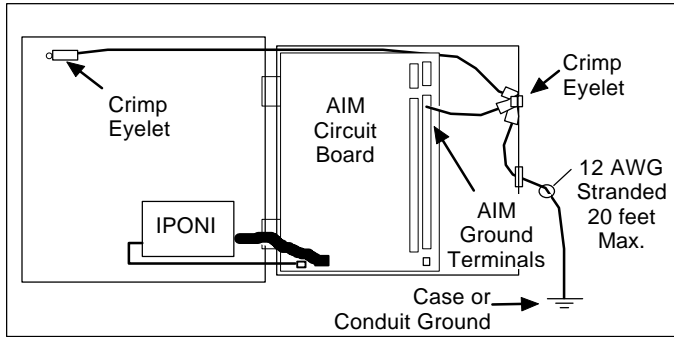

Figure 2 Grounding Connections
5) Grounding the Enclosure and Circuit Board. Grounding is essential for proper operation and protection of the AIM and safety of the user. Refer to Figure 2 below for grounding connections.